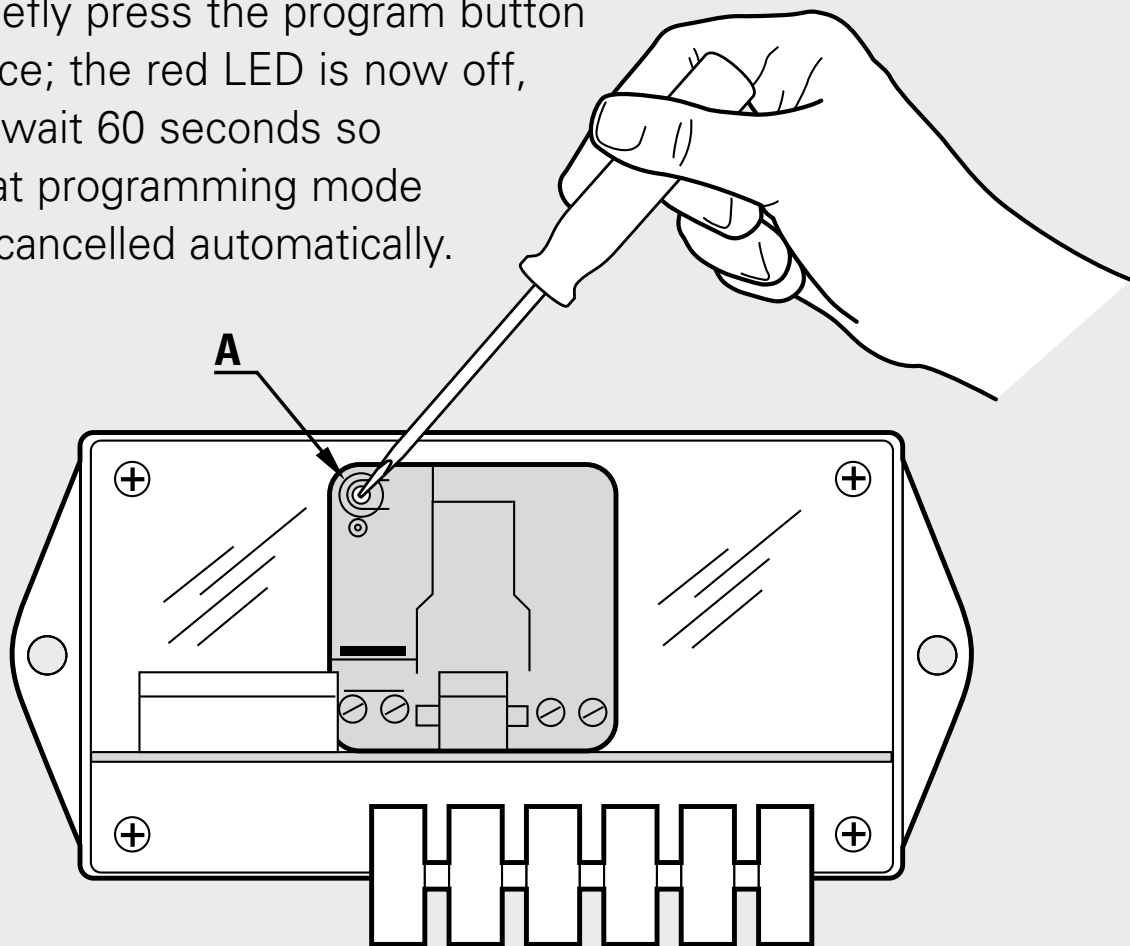

Figure 1. To activate and cancel programming mode, insert a screwdriver through the opening (A) in the rear of the box.
- Press the program button for at least three seconds, see Figure 1, so that the red LED lights up when the button is released.